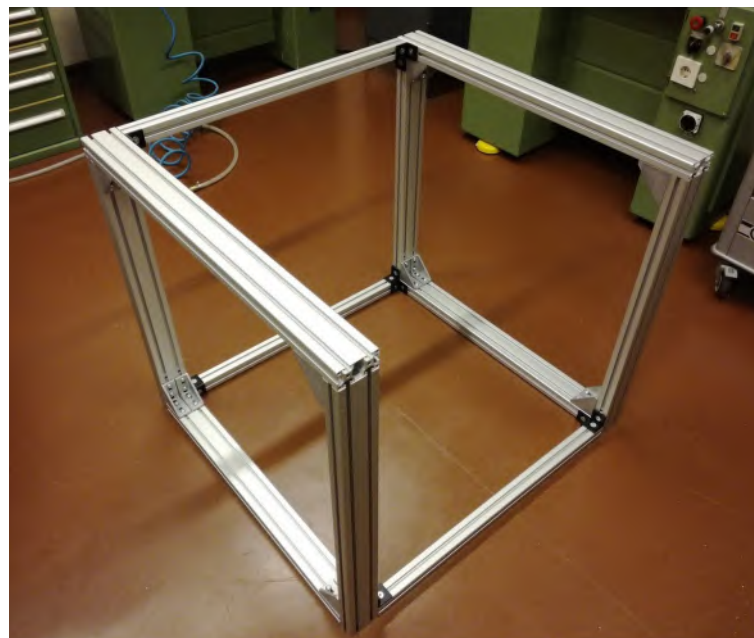

Figure 16: Assembled structure after step 5.
- 5.2. Attach the angles to the aluminum frame and connect it to the remaining structure (Figure 16).